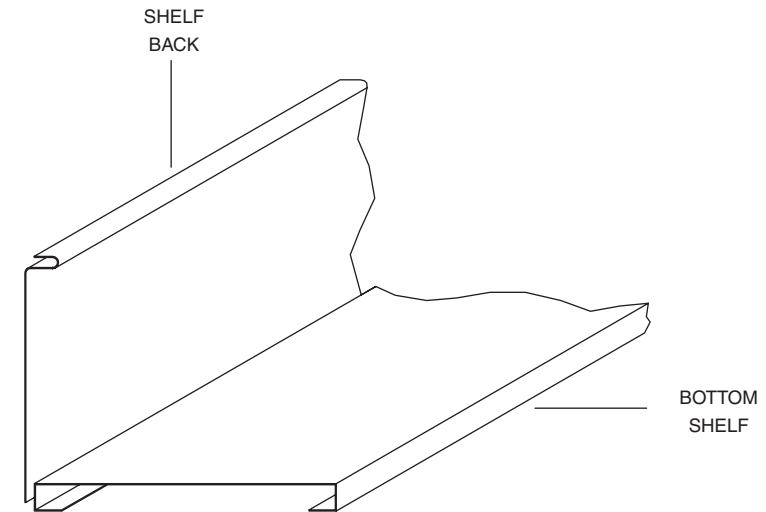

FIG. 1
1. Carefully slide bottom of "shelf back" between the panel fabric and the bottom shelf (Figure 1).
1. Assemble the cabinet back, the left and right side panels and the mounting brackets together by inserting the holes in the side panels and mounting brackets over the studs on the cabinet back (Figure 1). Loosely fasten the parts together with (6) flange nuts. **DONOT** tighten the nuts at this time.